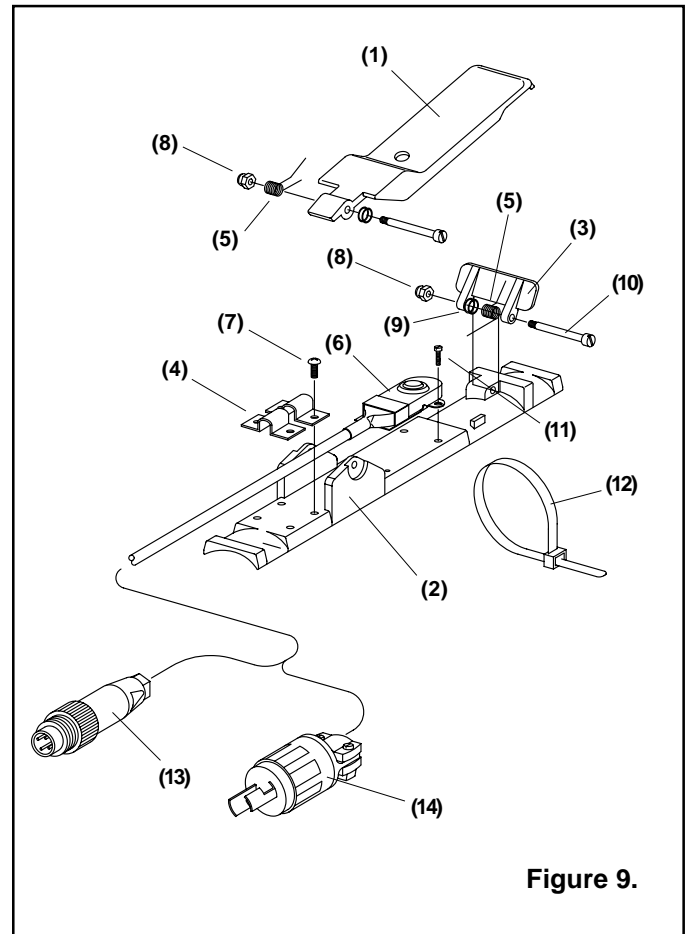

Figure 9.
**7.3 RLX Electric, Figure 9**